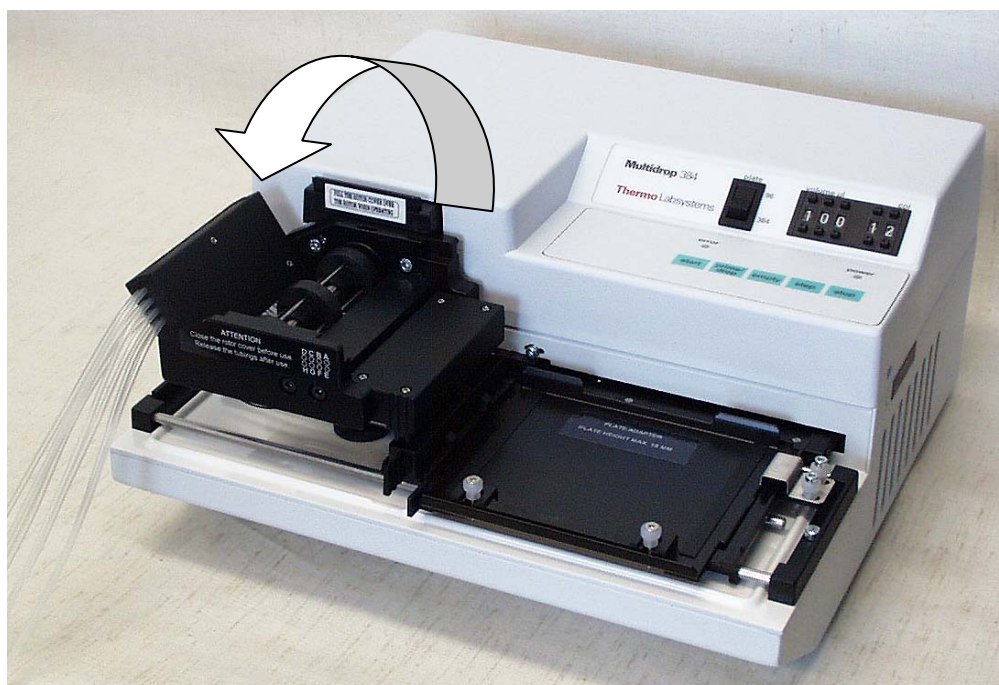

Fig. 6.18 Rest position of the dispensing cassette
If there is only a short break in dispensing, no washing or cleaning of the tubes is necessary. However, after pressing the **empty** key, release the tubing tension by pulling the upper part of the cassette from its slots and place it into its rest position slots located on the left-hand side of the rotor (Fig. 6.18).
After washing, store the dispensing cassette in the rest position (Fig. 6.18).
After washing, store the dispensing cassette in the rest position (*Fig. 6.18*).
2. Install the dispensing cassette into the Multidrop 384 if it is not already installed. Place the dispensing cassette into the rest position (*Fig. 6.18*). Refer to section 6.3 How to insert the priming vessel and the dispensing cassette.